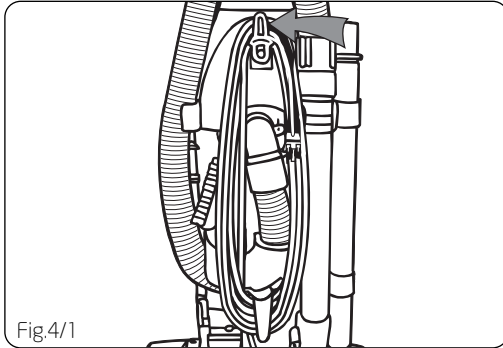

Fig.4/1
Turn the quick cord release for easy cord removal. Insert the cord into the cord clip (see page 2, item 14). This will keep the cord out of the way while vacuuming (Fig.4/1).